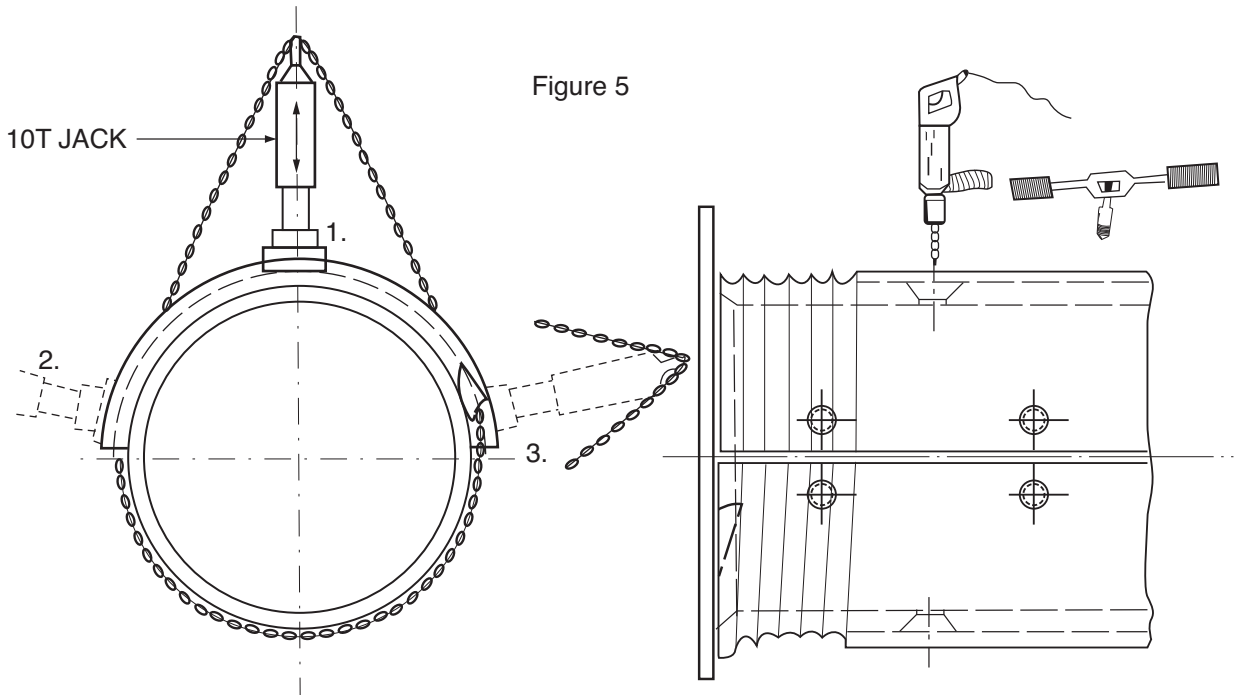

Figure 5
- 5) Use low hydrogen welding rod and start welding row 1 through the holes provided for plus welding as shown on figure 5. For better penetration of the weld on the drum increase the amperage slightly for plus welds.
- 8) Place the second half sleeve in position making certain that it is spaced properly between flanges. Figure 5.
4) Before starting to drill and tap (figure 5) the middle row check carefully to see taht the sleeve is fitting tight on the drum. Insert the bolts as you complete each hole to prevent cutting from getting under sleeves.